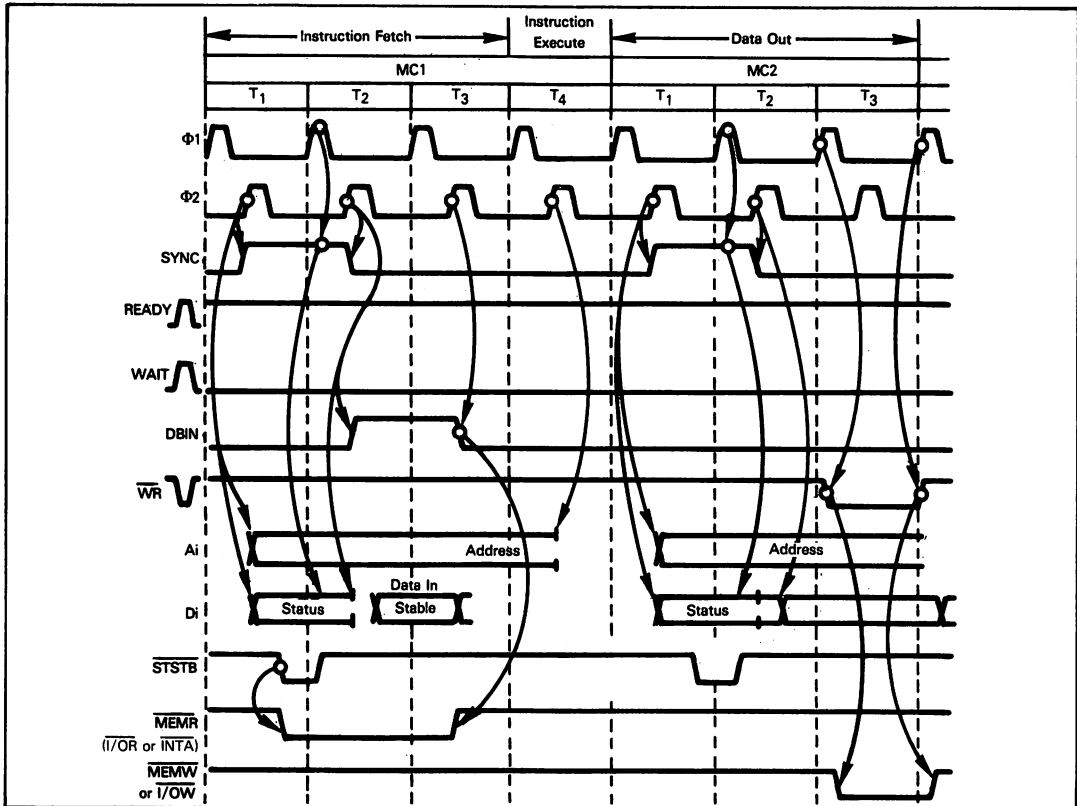

Figure 4-34. Timing for Control Signals Output by the 8228 System Controller
Control signal timing is given in Figure 4-34.
**If external logic responds to the  $\overline{\text{INTA}}$  low pulse by supplying the first byte of a CALL instruction's object code (11001101), then the 8228 System Controller will automatically generate two more  $\overline{\text{INTA}}$  low pulses for the next two machine cycles.** See Figure 4-34 for  $\overline{\text{INTA}}$  pulse timing within the machine cycle. Now external logic can use the  $\overline{\text{INTA}}$  pulse as a memory deselection and an interrupt acknowledge logic select. Here is a very general illustration of external logic that responds to an interrupt acknowledge by supplying the CPU with a three-byte CALL instruction's object code: